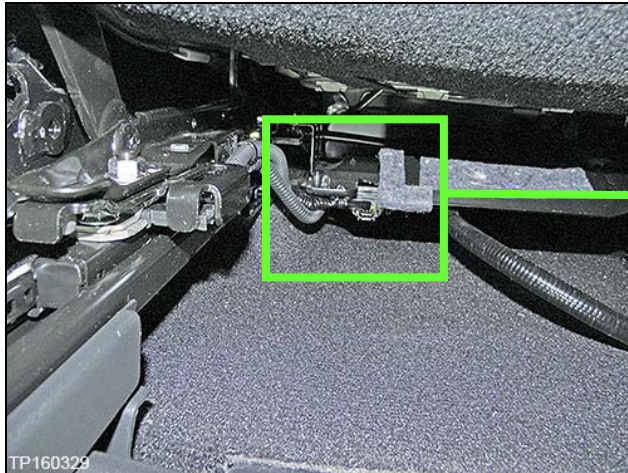

Figure 4
9. Disconnect the OCS harness connector (Figures 4 and 5).